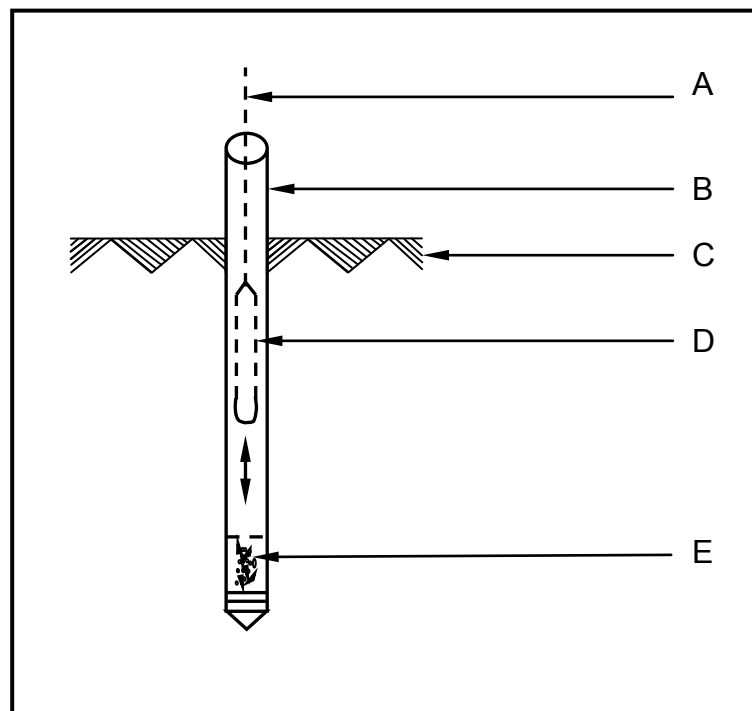

FIGURE 2.5
2.5 FIGURE 2.5 below shows a type of pile being installed.
2.5.5 Explain under what conditions the type of pile in FIGURE 2.5 can be used. (1)
2.5.6 Name ONE other type of pile that can be used instead of the one in FIGURE 2.5. (1)